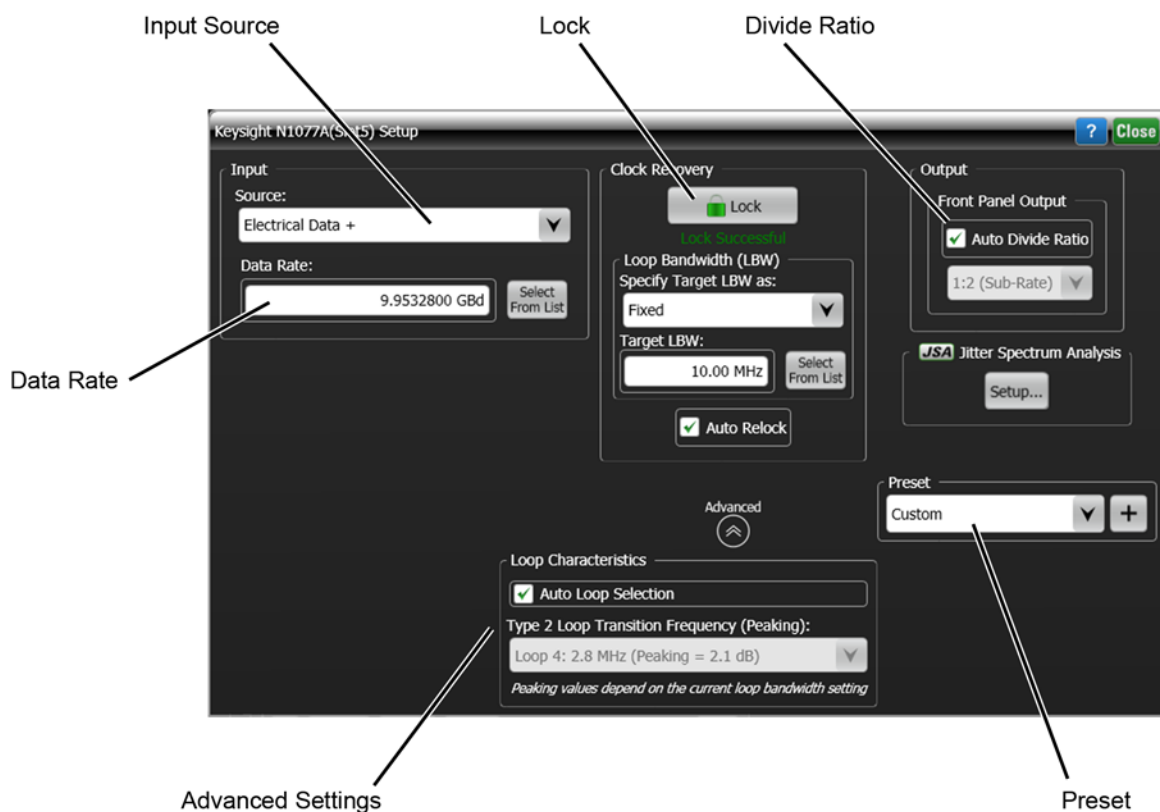

Figure 14 Clock Recovery Setup Dialog Box
- 4 Click **Setup** > **Modules** > **(Slot 6): Clock Recovery**. The dialog box shown **Figure 14** on page 35 is displayed.